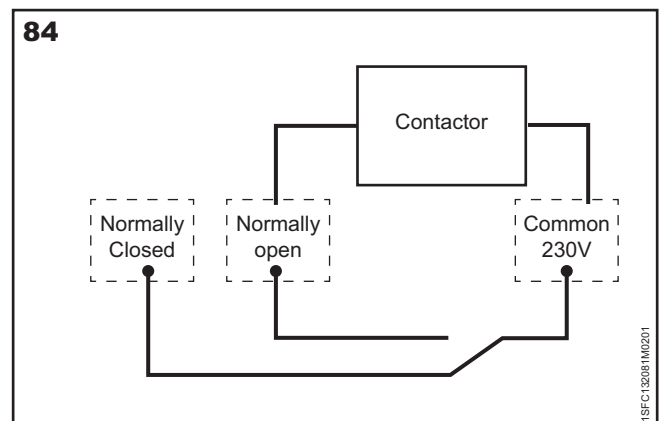

Figure 84: A contactor may for example be connected (230 volts)
Each relay has three terminals, one common terminal (COM), one normally open terminal (NO) and one normally closed terminal (NC). See **Figure 84**.